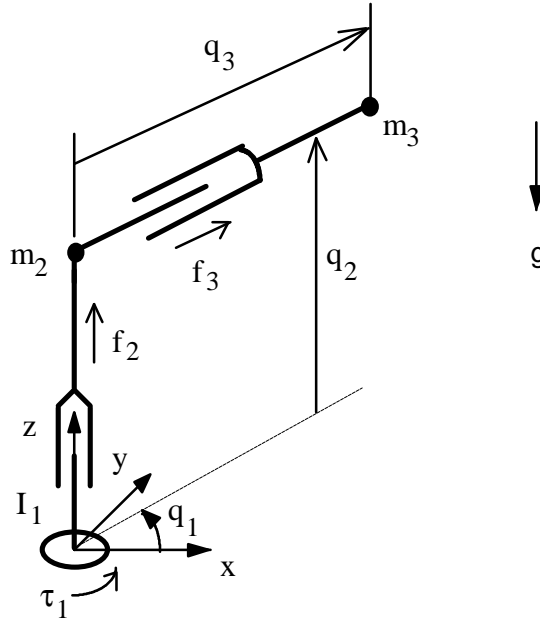

Figure 7
- Q.5 (a) For the three degrees-of-freedom robot shown in Figure 7, joint 1 is rotational while joints 2 and 3 are translational. Here, I_1 is the moment of inertia of joint 1, and m_2 and m_3 are equivalent masses of links 2 and 3. Further, q_1 is the angular displacement of joint 1, and q_2 and q_3 are the displacements of links 2 and 3. Let τ_1 be the output torque of motor 1, and f_2 and f_3 be the output forces of motors 2 and 3.